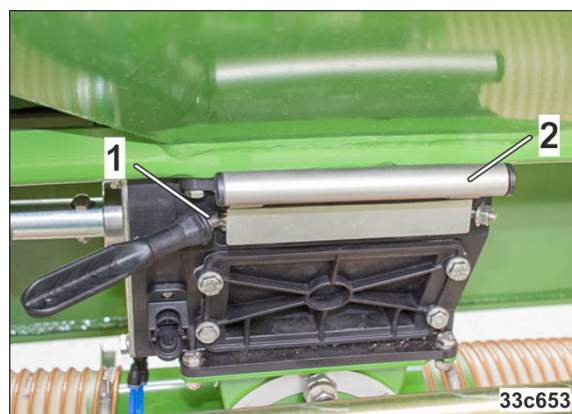

Fig. 145
3. Swivel the bolts (Fig. 145/1).
4. Push the shutter (Fig. 145/2) into the dosing unit up to the stop.